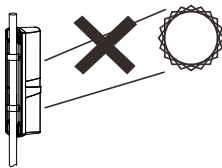

Fig 5
- (3) Do not install the RX in a location exposed to direct sunlight, as shown in Figure 5;